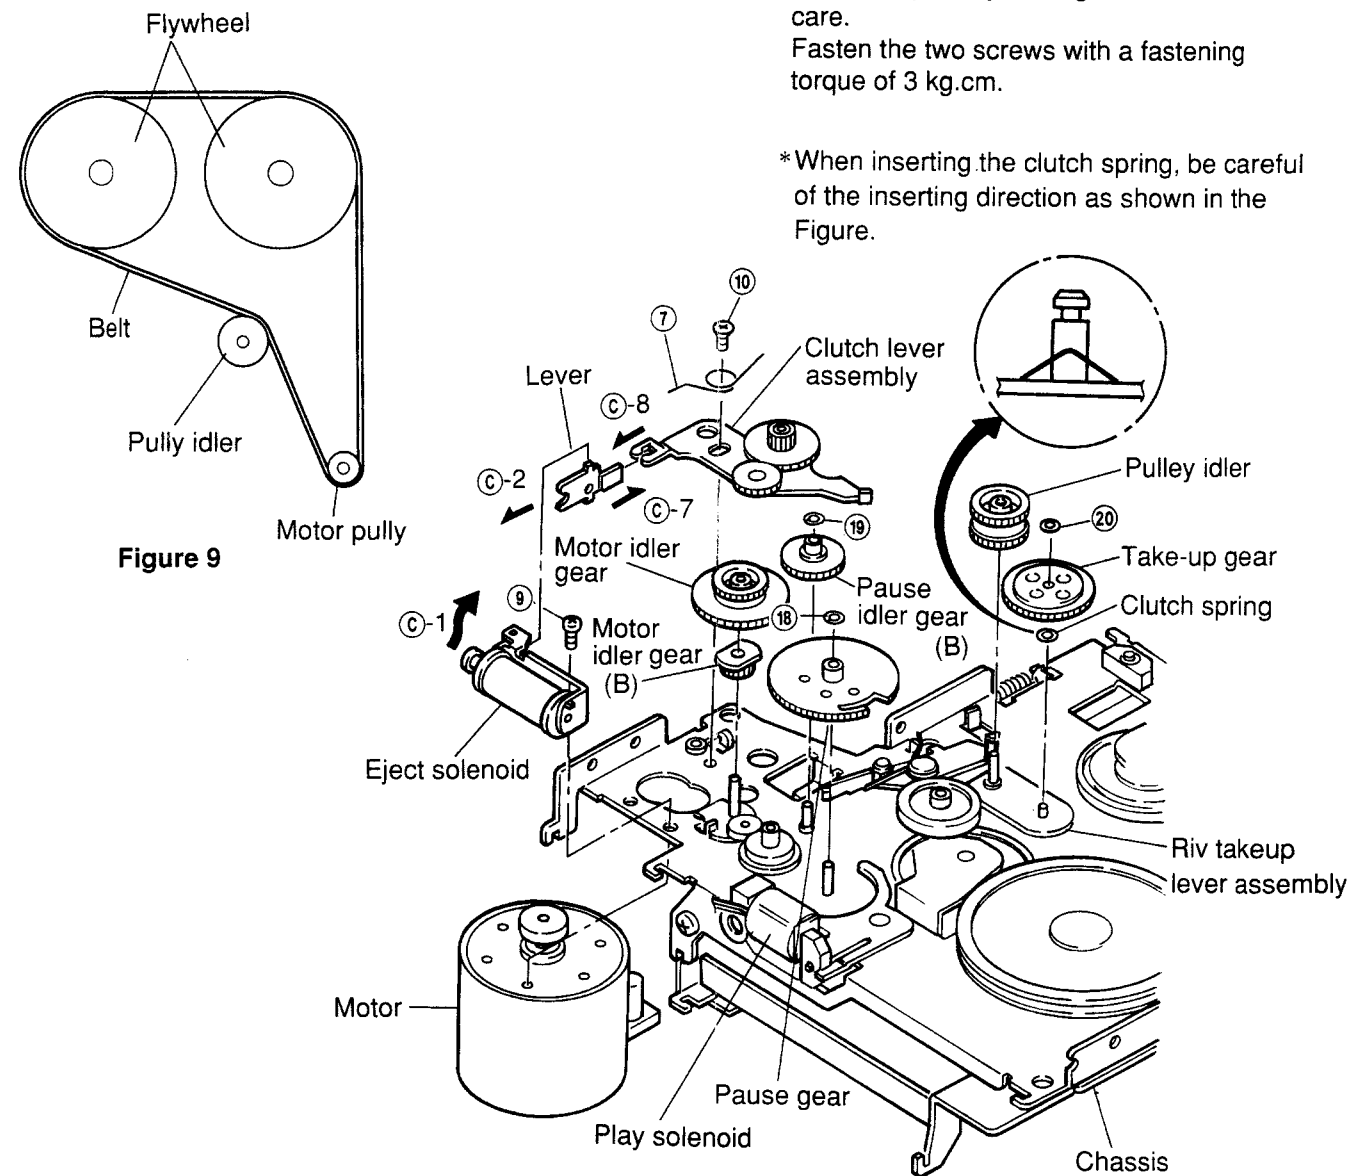
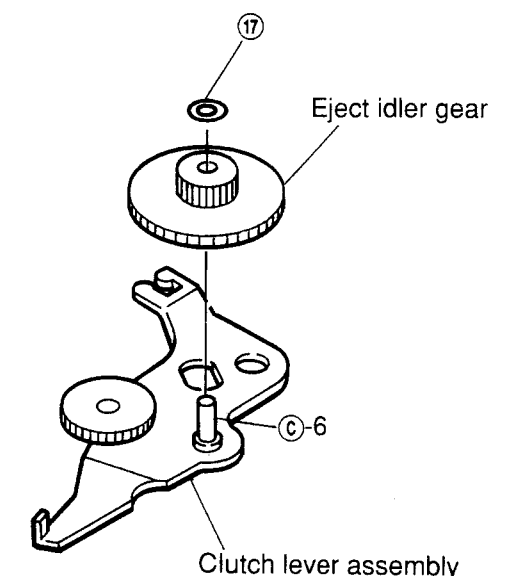

Figure 10
Figure 15
- (1) After removing the belt, remove spring ⑦ as shown in Figure 10.
- (3) Remove two screws ⑨ and ⑩, and remove the motor, taking care not to damage the motor idler gear. (Refer to Figure 10.)
- (4) Mount the new motor following the removal steps in the reverse order.
- (2) Remove screw ⑨ and remove the play solenoid as shown in Figure 10.
- (3) Align position ① of the new solenoid with position ② of the lever and fasten the screw as shown in Figure 10.
- (4) Lead the wire through the tube and solder it.
- (1) After removing the motor, remove the motor idler gear and the motor idler gear (B) and remove the clutch lever assembly as shown in Figure 10.
- (2) Remove M1.2 lock washer (17) and remove the eject idler gear as shown in Figure 15.
- (3) Mount the new gears and clutch lever following the removal steps in the reverse order.
Note: When mounting the gears to the lever, apply grease (FLOIL 425A) to the position ③-6 as shown in Figure 15. Align the position ③-7 with the position ③-8 and mount the clutch lever as shown in Figures 10 and 15.
- (1) Remove M1.2 lock washer (18) and remove the pause gear pulling it up from the stud of the chassis as shown in Figure 10.
- (2) Mount the new gear following the removal steps in the reverse order.
- (1) After removing the motor and the motor idler gear, remove M1.2 lock washer (19) and remove the gear by pulling it up from the stud of the chassis as shown in Figure 10.
- (2) Mount the new gear by following the removal steps in the reverse order.
- (1) After removing the belt and the pulley idler gear, remove M1.2 lock washer 20 by pulling it up from the stud of the riv take-up lever assembly as shown in Figure 10.
- (2) Remount the take-up gear following the removal steps in the reverse order.